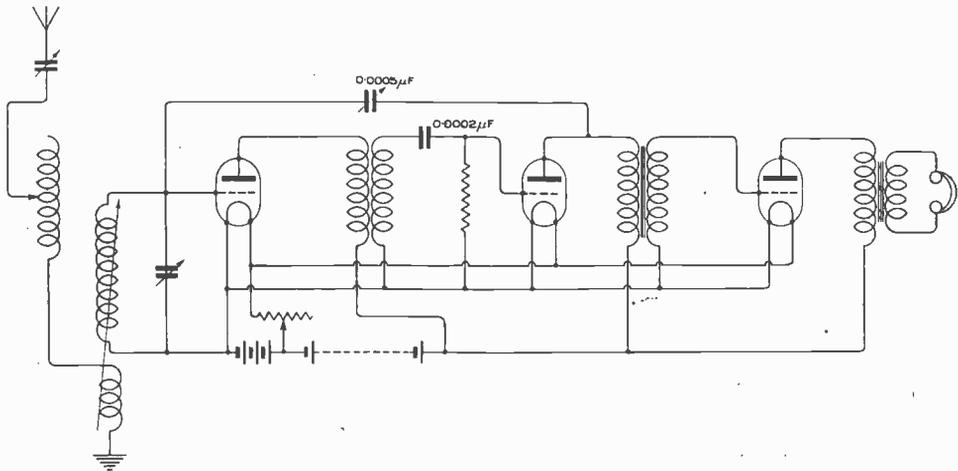

Fig. 1.
**"ELECTRON" (Elland)** has a collection of apparatus and asks (1) For a suitable circuit. (2) Where to use an "Ora" valve. (3) If PCGG will be heard on a set in Yorkshire. (4) If additional apparatus is required.
(1) and (4) See diagram Fig. 1.
(2) Use it as rectifier.
(3) Yes, if the H.F. transformer is suitable for 1,050 ms., and the adjustment of the circuits very carefully carried out.